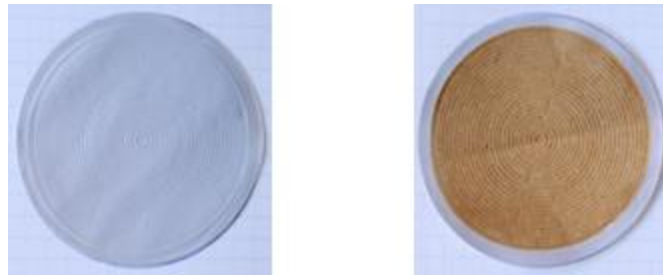

Figure 6. SDI₁₅ filters before and after the test
SDI (Silt Density Index): Is a Fouling Index. This parameter provides an indication of the particulate fouling potential of the water (see Figure 6). It is based on the measurement of the time it takes to collect 500 mL of water sample through a paper filter of 0.45 µm at the start of the test (t_i) and after the water has flowed through the filter at 2.1 bar (t_f) for 15 minutes (T). SDI number is calculated by Equation 1: